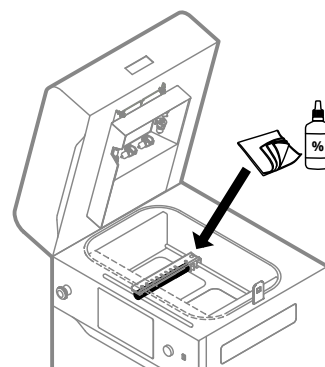

Fig. 13.19 Use the cloth and ethyl alcohol to clean the Recoater roller, when it is above the Feed Bed.
13. Wipe the Recoater roller with dry cloth to remove the powder (fig. 13.19).
14. Next, wipe the Recoater roller using cloth soaked in ethyl alcohol (fig. 13.19). Press **DONE**.